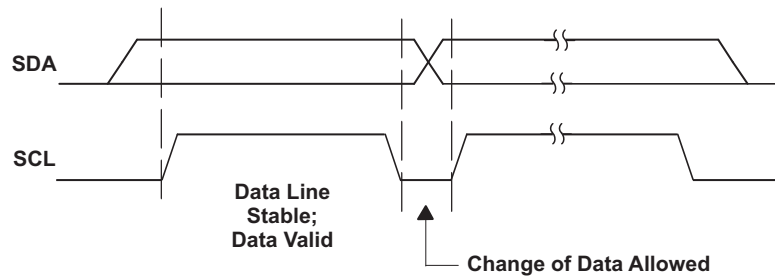

Figure 18. I²C Bit Transfer
- The master then generates the SCL pulses and transmits the 7-bit address and the read/write direction bit $\overline{R/W}$ on the SDA line. During all transmissions, the master ensures that data is valid. A valid data condition requires the SDA line to be stable during the entire high period of the clock pulse (see Figure 18). All devices recognize the address sent by the master and compare it to their internal fixed addresses. Only the slave device with a matching address generates an acknowledge (see Figure 19) by pulling the SDA line low during the entire high period of the ninth SCL cycle. On detecting this acknowledge, the master knows that a communication link with a slave has been established.